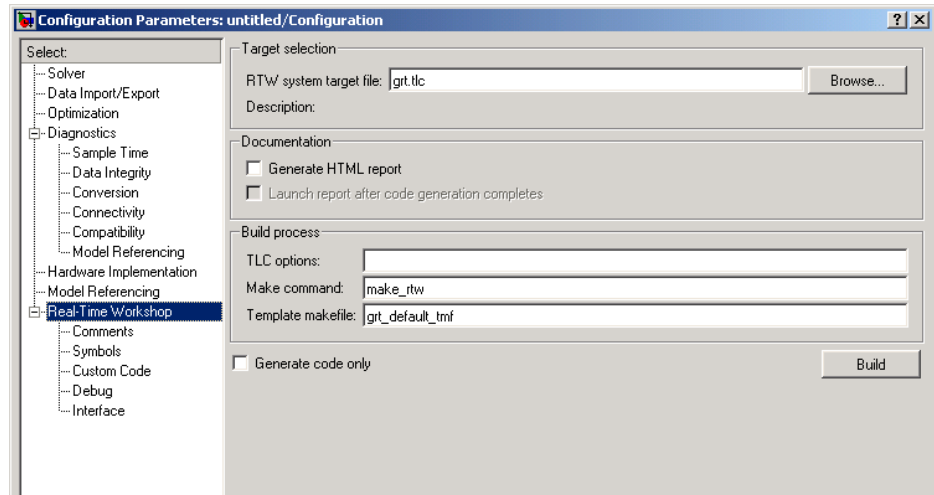

Figure 2-1: Real-Time Workshop Pane
- If you have selected a target configuration using the System Target File Browser, this field displays the name of an M-file that selects an appropriate template makefile for your development environment. For example, in Figure 2-1, the **Template makefile** field displays `grt_default_tmf`, indicating that the build process will invoke `grt_default_tmf.m`. “Template Makefiles and Make Options” on page 2-71 gives a detailed description of the logic by which Real-Time Workshop selects a template makefile.